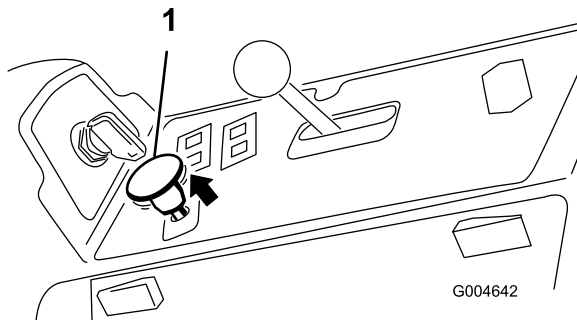

Figure 19
3. Pull up on the PTO switch to engage it (Figure 19).